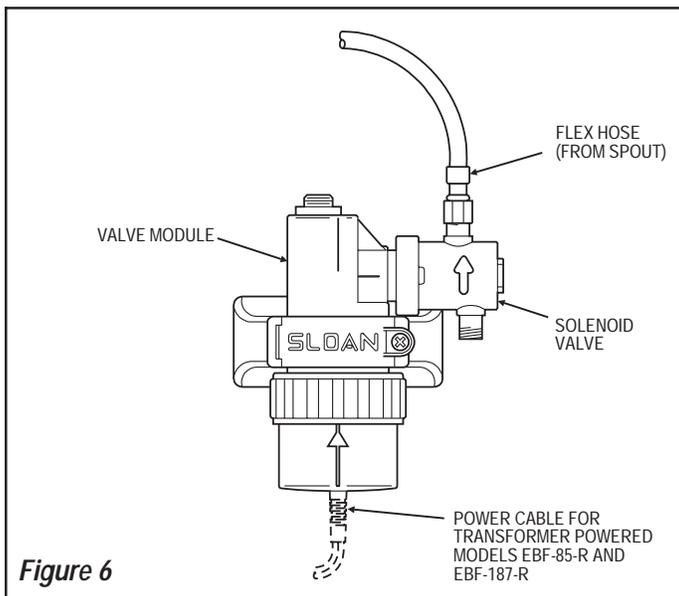

Figure 6
Step 6 — Connect Flex Hose to Solenoid Valve (Figure 6)